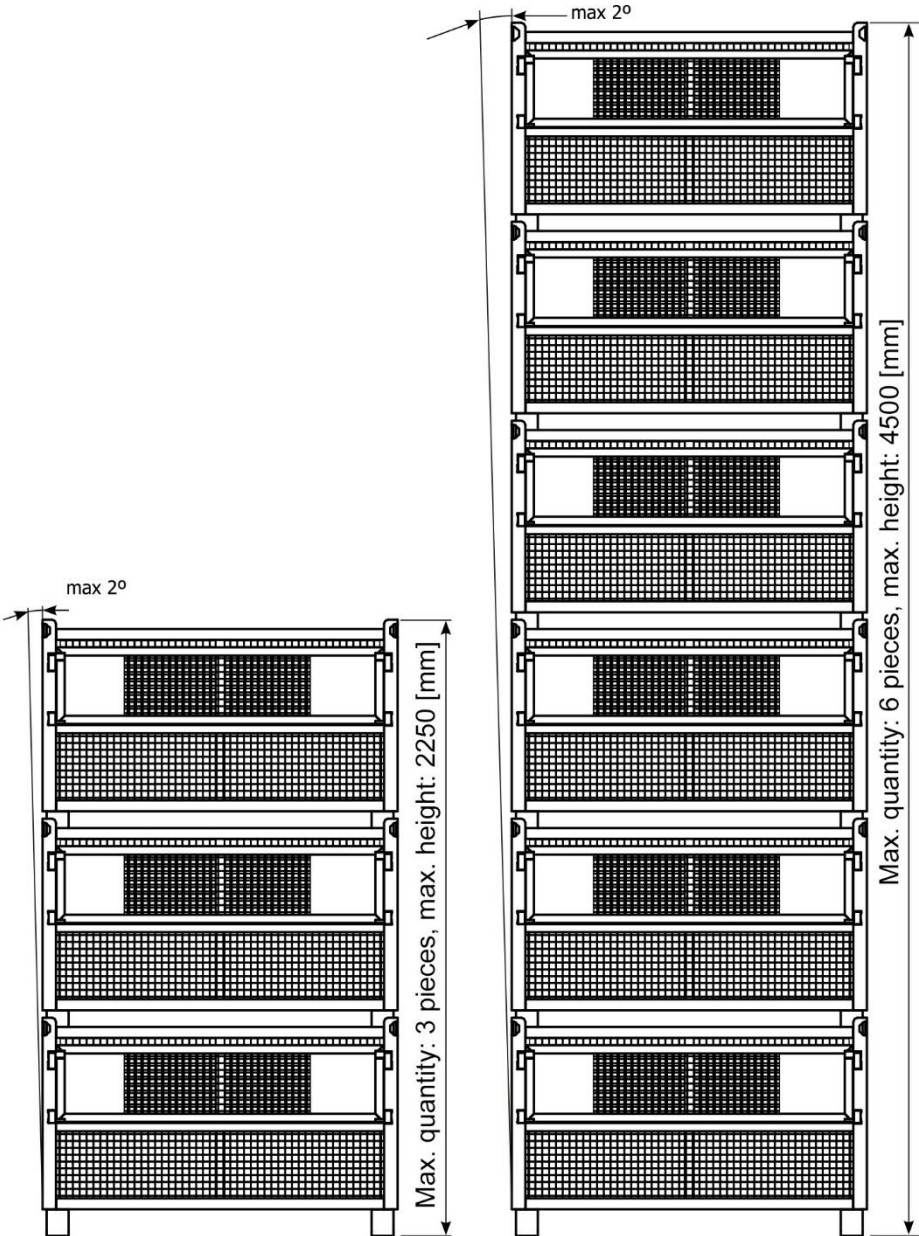

Fig. 3 Storage of Lattice box
The lattice box can be stacked on top of each other. In the storage yard, six lattice boxes may be stacked on top of each other (Fig. 3). In this case the final stacking weight of 6400 [kg] and the stacking height of 4.5 [m] should not be exceeded, even when unloaded. On site, the stack size should not exceed three lattice boxes. Then the final mass should be a maximum of 3600 [kg] and the height of the stack 2.25 [m].
4. Place a maximum of 3 lattice boxes on top of each other on the site! (Fig. 3)
5. A maximum of six lattice boxes can be placed one on top of the other - only on a flat, concrete, storage surface (Fig. 3).